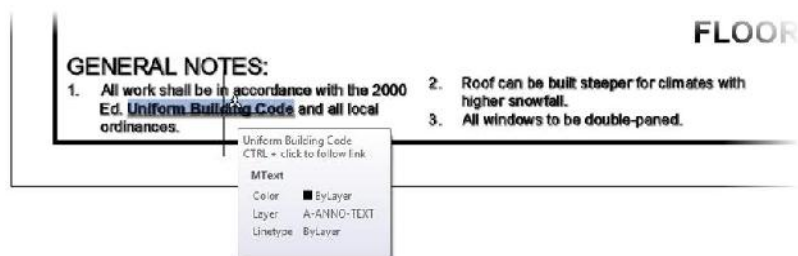

FIGURE 8.68: Selecting a hyperlink embedded in Mtext
12. Hover the cursor over the gray background (see Figure 8.68).